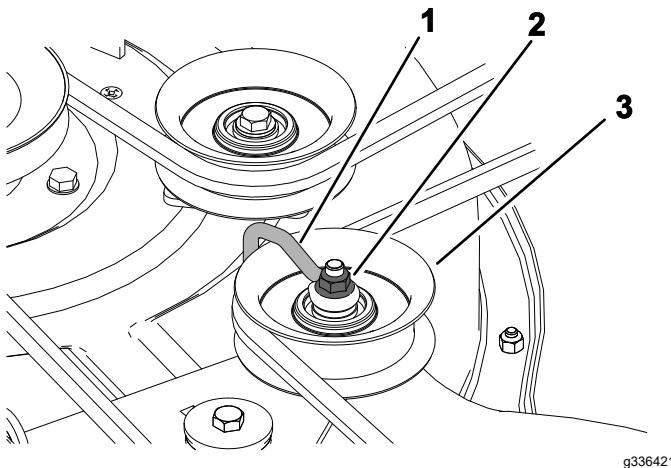

Figure 49
2. Screw (3)
5. Loosen the nut securing the wire form to the idler pulley (Figure 49).
Note: Position the wire form against the idler arm as shown in Figure 49.